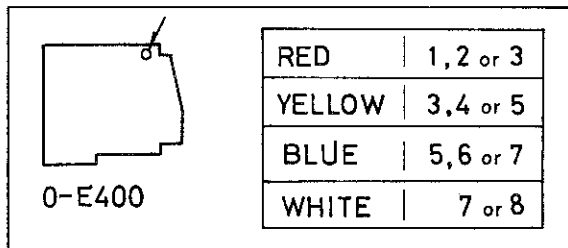

FIG 3-1 E200-400 MATCHING
E400 has a color marking of ①Red ②Yellow ③Blue ④White at the spot shown in Fig3-1, and F200 has a digit marking of from 1 to 8, according to their operating characteristics.
E200 and E400 should be used in combination shown in Fig3-1.